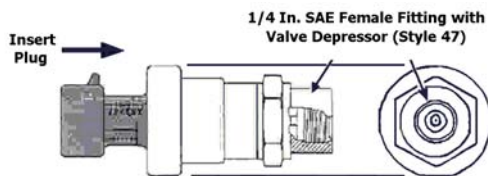

FIGURE 2 - P399 PRESSURE TRANSDUCER
4. Attach the pressure transducers to the connection tee (provided in accessory). The pressure transducer has a 1/4 In. SAE female flare with Schrader valve depressor for mounting to the tee. See Figure 2.